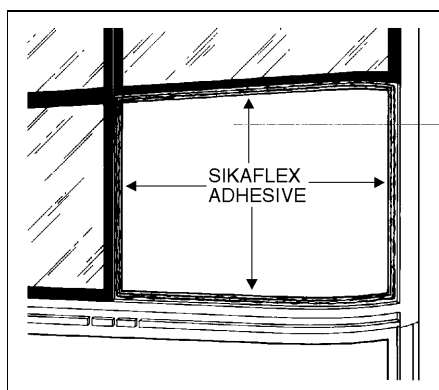

FIGURE 59: WINDSHIELD 18102
6. Apply 2 beads, parallel but not touching, of Sikaflex-255 FC polyurethane adhesive (Prévost # 681092) on the sealing surface of the windshield opening. See figure 59.